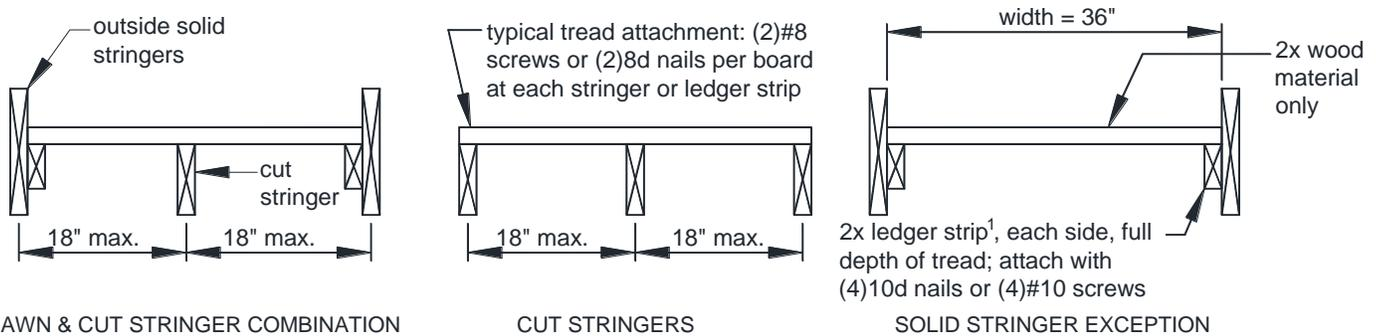

FIGURE 41: STRINGER TREADS
- Tread material shall be equivalent to the decking specified on Page 4 and attached in accordance with FIGURE 41. The span of plastic composites shall be per manufacturer and in some cases may be less than 18 inches specified in FIGURE 41.
- Stairs constructed using the solid stringer exception shall have treads constructed of 2x wood material only; see FIGURE 41.